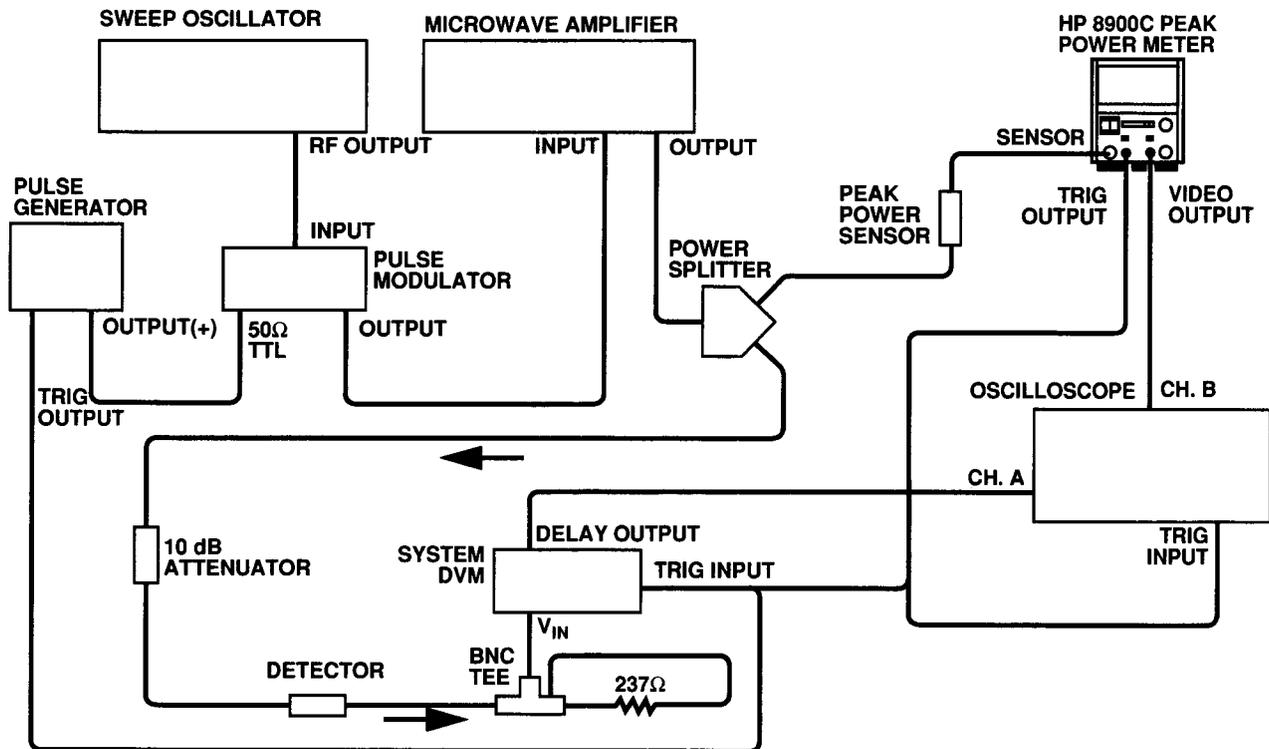

Figure 4-3. Peak Power Measurement Accuracy
1. Reconfigure the test setup as in Figure 4-3. Set the step attenuator to maximum attenuation. Set the pulse generator for 10  $\mu$ s pulsewidth, and 1 kHz repetition rate. Set the Peak Power Meter to DIRECT mode. Adjust the frequency slightly to obtain the sharpest looking square wave on the oscilloscope. This adjustment will compensate for mismatch and standing waves.
1. Reconfigure the test setup as shown in Figure 4-3. Adjust the pulse generator for a +5 volt pk output, 100 Hz repetition rate and 1  $\mu$ s pulse width. Adjust the sweep oscillator for 6 GHz, or the frequency of interest. Adjust the signal source for an indicated power level of 100 mW on the Peak Power Meter. Set the oscilloscope to 10 ms/div, channel A (video out) to 0.5 V/div and channel B (delay out) to 5 V/div. Set the oscilloscope's trigger to external and positive, and set the display mode to chop. The pulse modulator should be set to normal, 50  $\Omega$  TTL. Set the system voltmeter to external trigger, 1 volt range and delay equal to 0.000002 seconds. Adjust the sweep oscillator frequency slightly to obtain the squarest pulse with no overshoot.